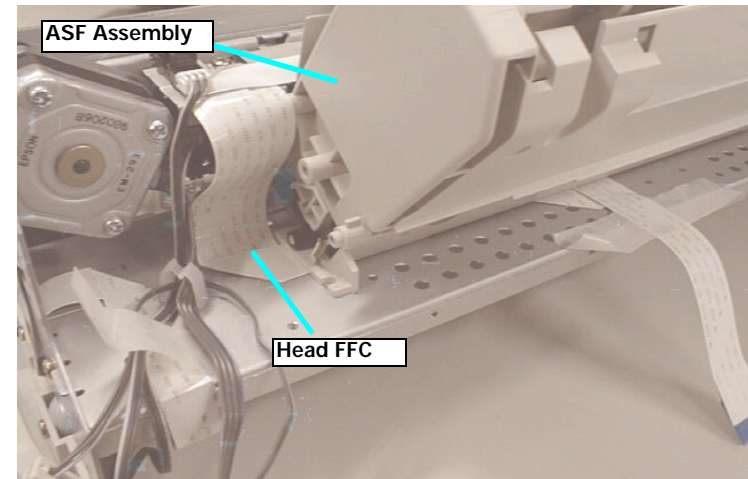

Figure 4-25. Head FFC Routing
- Head FFC goes under the ASF. When installing the ASF, be careful not to damage FFC. (Refer to Figure 4-25.)